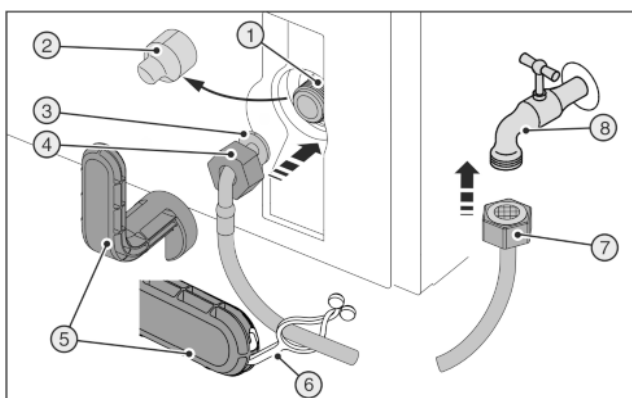
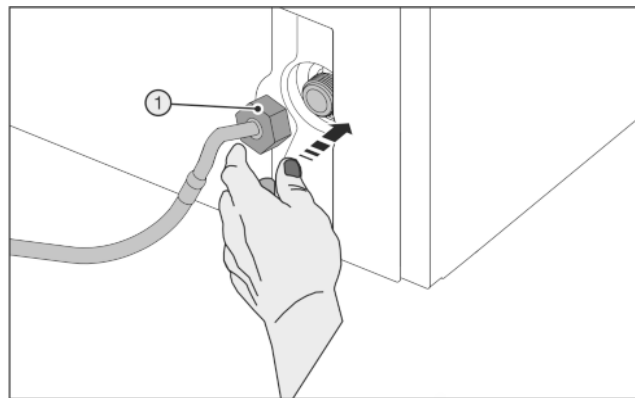

Fig. 28
Fig. 29
Broken auxiliary tool Fig. 28 (5).
- Only use an auxiliary tool Fig. 28 (5) at room temperature.
- Remove the cover Fig. 28 (2).
- Easy to fit: Place the straight end of the hose Fig. 28 (7) to the left on the floor.
- Slide the nut Fig. 28 (4) over the angled end of the hose Fig. 28 (3) up to the end and secure.
- Position the nut Fig. 29 (1) carefully and screw it directly onto the thread with two fingers until it is seated securely.
- Tighten the nut Fig. 29 (1) clockwise with the auxiliary tool Fig. 28 (5) until maximum torque is reached and the auxiliary tool Fig. 28 (5) overtightens.
- Screw the nut Fig. 28 (7) onto the stopcock Fig. 28 (8).
- Tighten the nut Fig. 28 (7) clockwise with the auxiliary tool Fig. 28 (5) until maximum torque is reached and the auxiliary tool Fig. 28 (5) overtightens.
- Turn the water supply stopcock Fig. 28 (8) on and check the whole water system for leaks.
- Hook the clip Fig. 28 (6) into the auxiliary tool Fig. 28 (5) and fix it to the stainless steel pipe to store it.